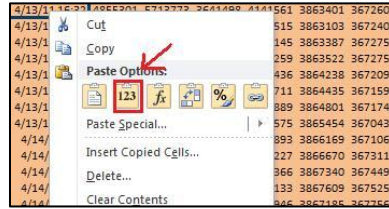

Figure 32: Correctly Pasting Values into the Template
****Note:** Figure 32 and
3. **Copy** all of the columns of data from the **hourly_averages** excel document. **Paste** this data into the section titled “Paste EchoPro Values Below” and labeled by the number 2. Pasting, as shown in Figure 32, is accomplished by right clicking and selecting paste – values.